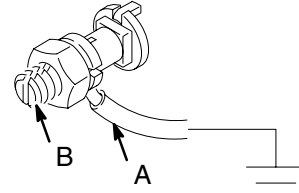

Fig. 2
To ground the agitator, connect one end of the ground wire (A) to the ground connector (B) on the rim of the drum cover. See Fig. 2. Connect the other end of the ground wire to a true earth ground.